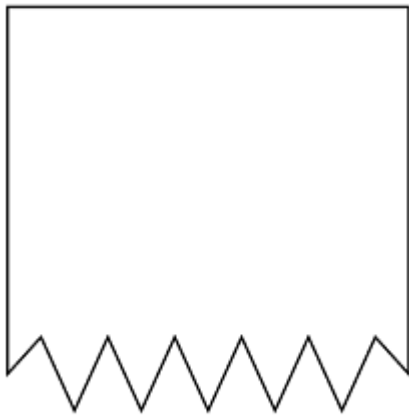

Fig. 5: Aperture no mill radius or smoothing
2. figure 5: shows a resulting aperture shape with no mill radius and no smoothing applied to the aperture creation parameters